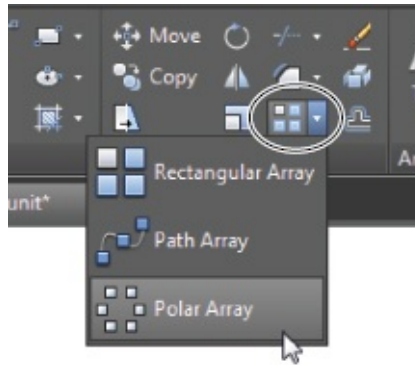

FIGURE 6.3 The Array flyout
2. Click the Polar Array tool from the Array flyout on the Modify panel, as shown in Figure 6.3, or type **ARRAYPOLAR** ↵.